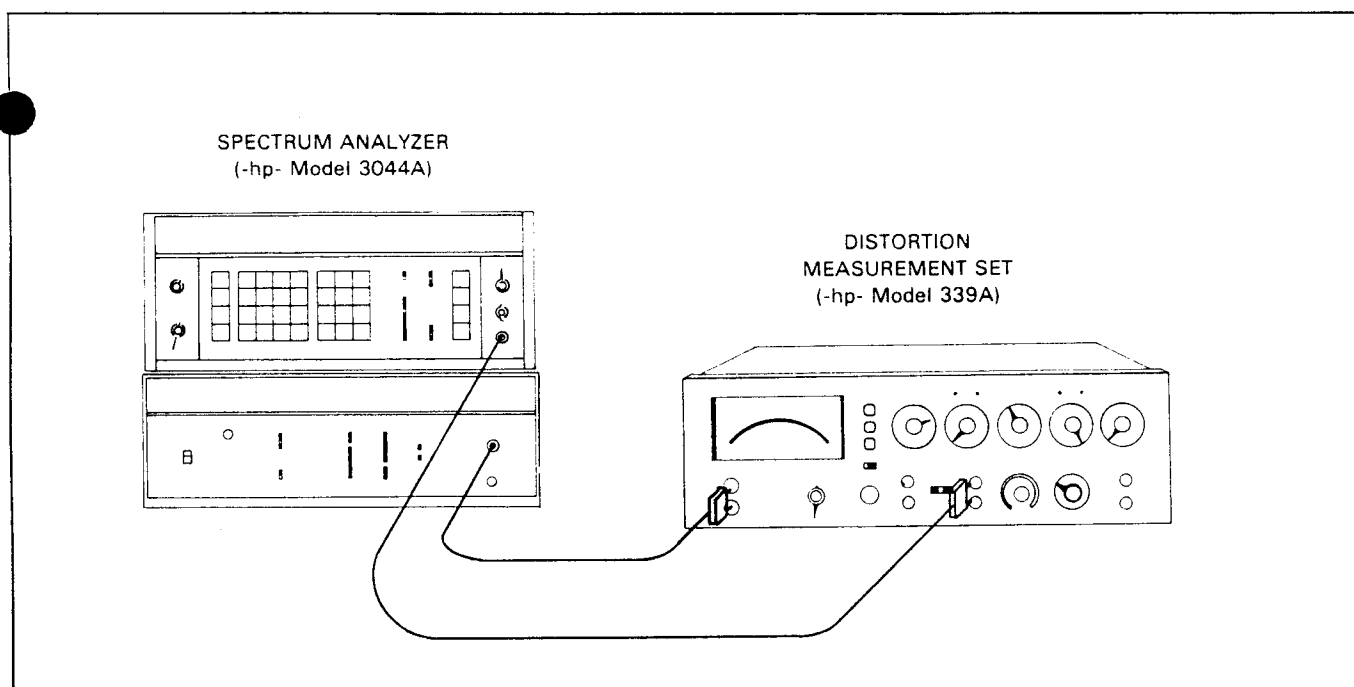

Figure 4-4. Filter Accuracy Test.
- b. Connect the equipment as shown in Figure 4-4.